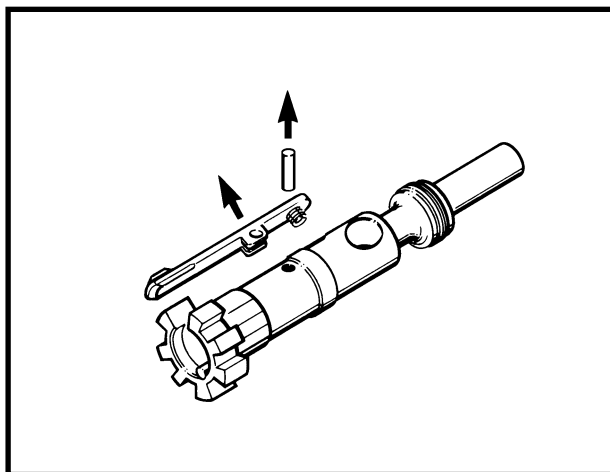

Figure 3-2-31 Removing the Extractor
- a. Using a suitable punch, push out the extractor pin and remove the extractor. See Figure 3-2-31;